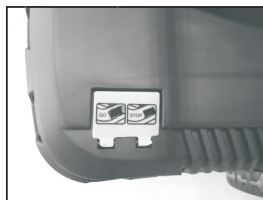

Fig. 13B
- If the grass catcher is full, the indicator collapses; once this happens, stop moving immediately and empty the catcher, make sure it is clean and ensure its meshwork is ventilated. (Fig. 13B)